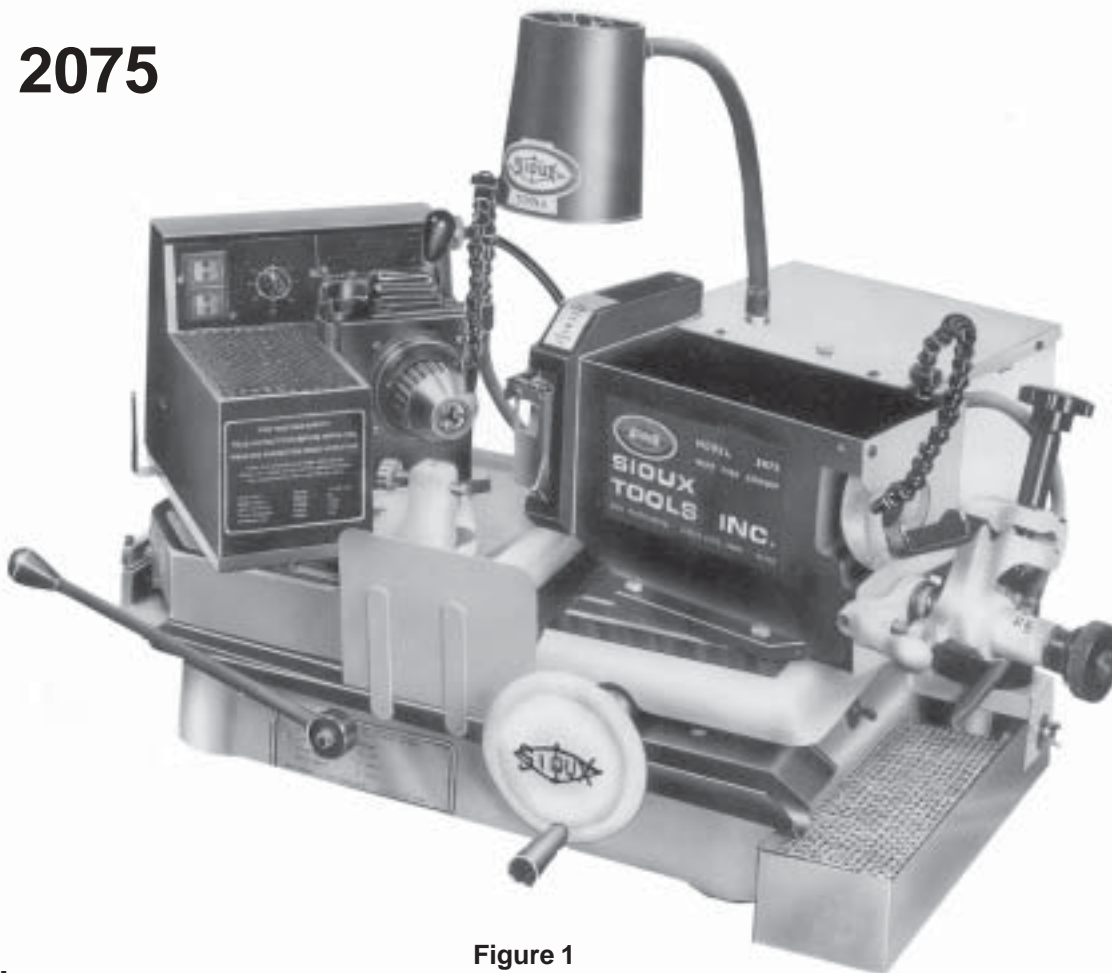

Figure 1
6. Attach dressing tool as shown in Fig. 1. (SEE INSTRUCTIONS FOR DRESSING WHEELS.)